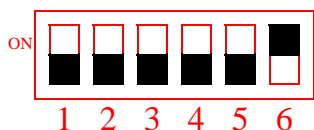

Figure 9-1 SW1 SWITCH SETTINGS
6. Starting at SW1, switch 5, turn each switch (1-5) On and record the reading; then turn the switch Off and go to the next switch (see Figure 9-1).